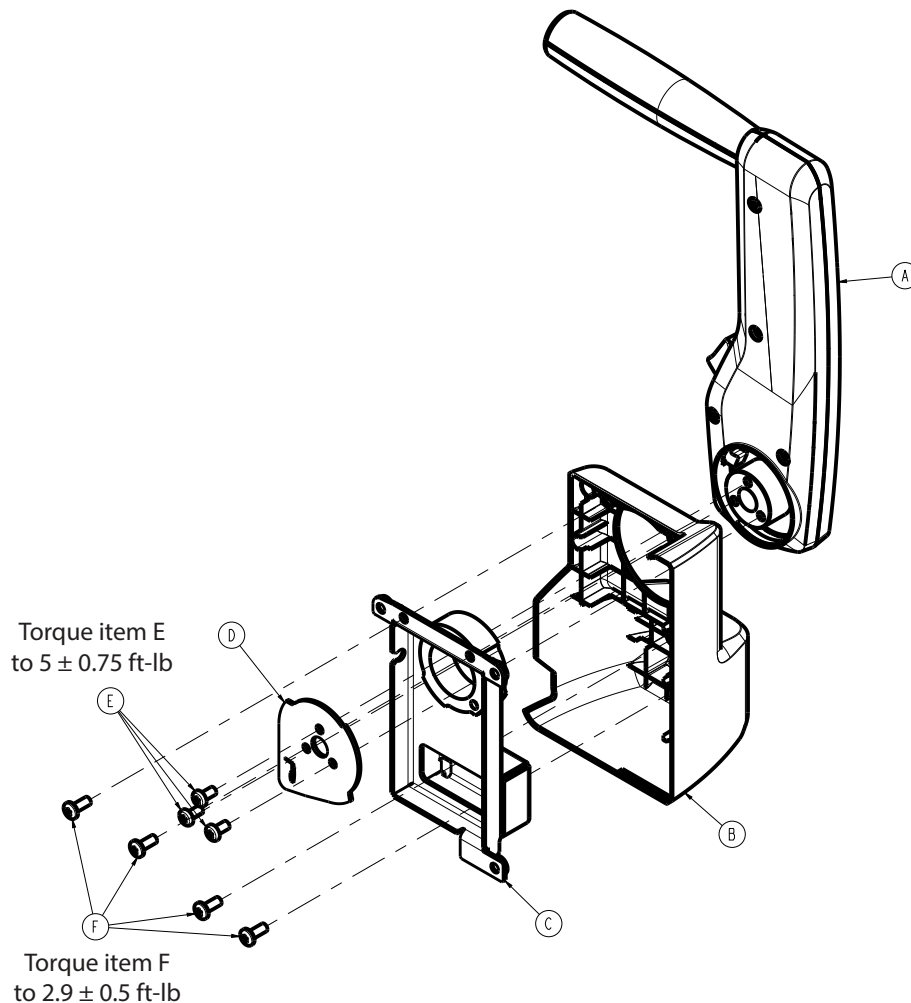

Figure 73 – Removing the Zoom push handle
9. Using a T30 Torx driver, remove the three screws (E) that secure the **Zoom** push handle (A) to the bumper (B) and remove the pivot plate (D) (Figure 73). Save the pivot plate and screws.